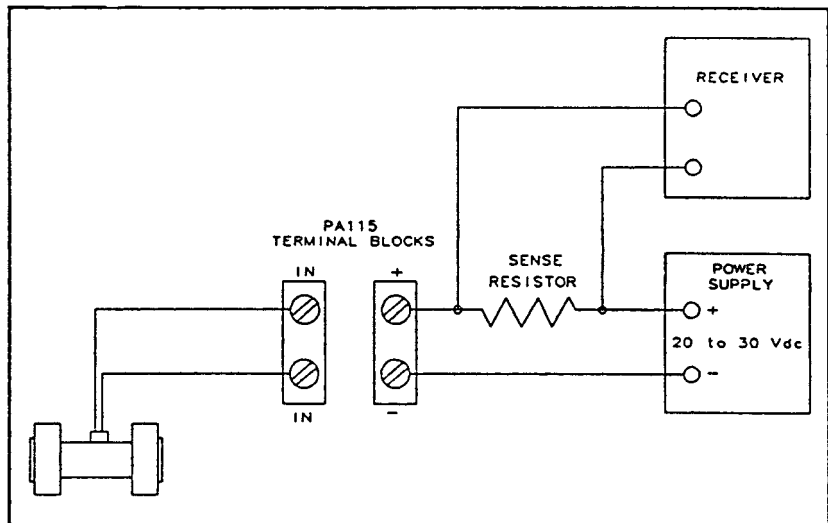

Figure 4. Wiring, turbine meter mounting.
The PA115 uses a two wire system. These two wires are the power and signal interconnection between the amplifier and receiver. There are a total of four wires which are connected to the amplifier, two from the turbine meter pickup coil and two from the receiver. Wiring connections to the amplifier are made to a terminal block, no lugs are required. Access to the terminal block is by removing the threaded round cover, item 1. See Figure 4 and Figure 8.